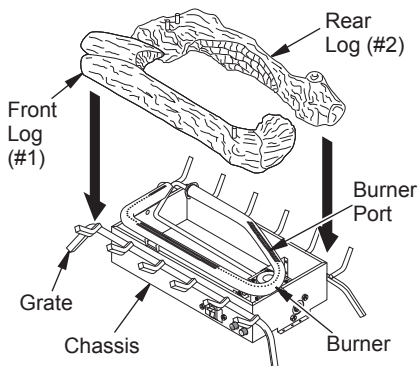

Figure 18 - Installing Front (#1) and Rear (#2) Logs
1. Place front log (#1) and rear log (#2) on grate to fit as shown in Figure 18.